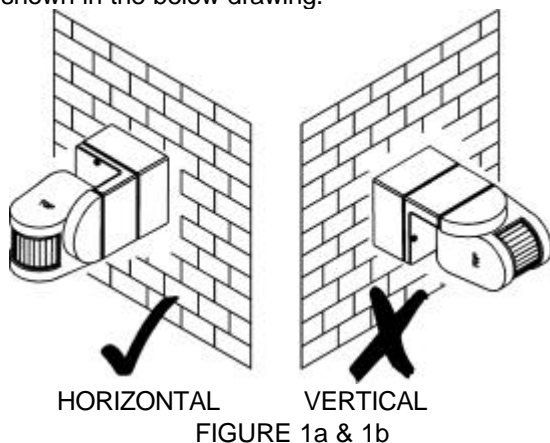

FIGURE 1a & 1b
- The unit can be installed only horizontally (see the FIGURE 1a), not vertically (see the FIGURE 1b) as shown in the below drawing.